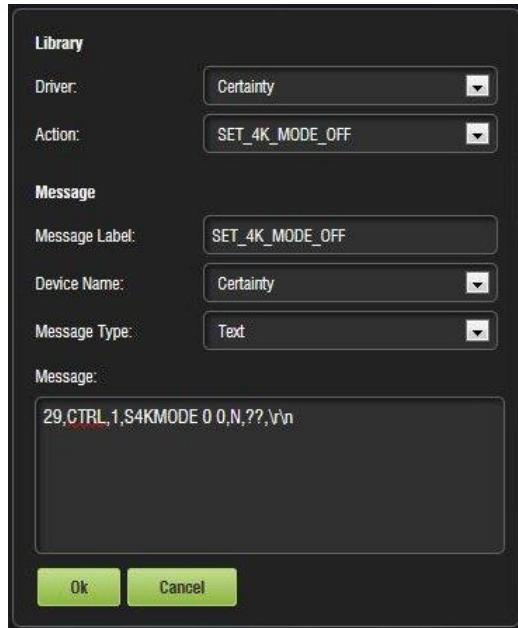

Figure 145: Library Window
- The following pop-up window will appear (Figure 145):